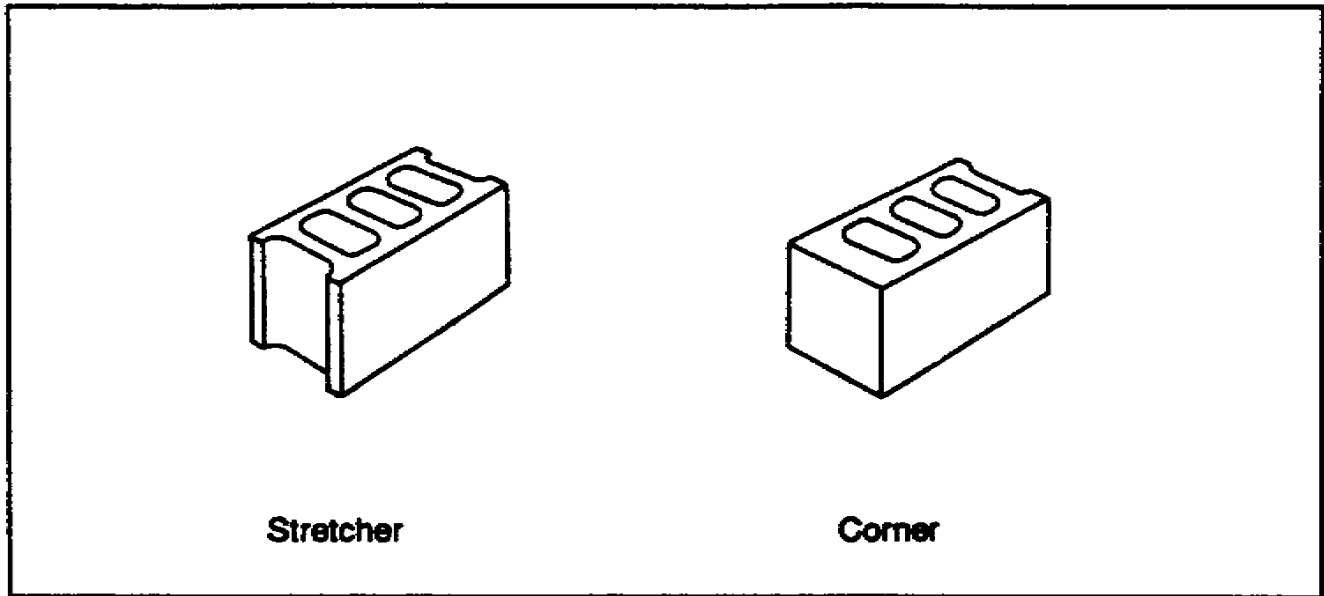

Figure 2-3. Standard blocks
**2-7. Economical Construction.** The most economical concrete-block walls are made of standard stretcher and corner blocks (Figure 2-3).